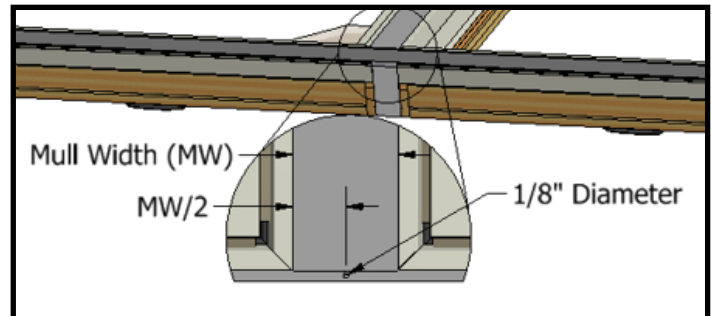

Figure 9
- P. Drill a 1/8" weep hole in the center where end caps on the sill meet spread mulls (figure 9).